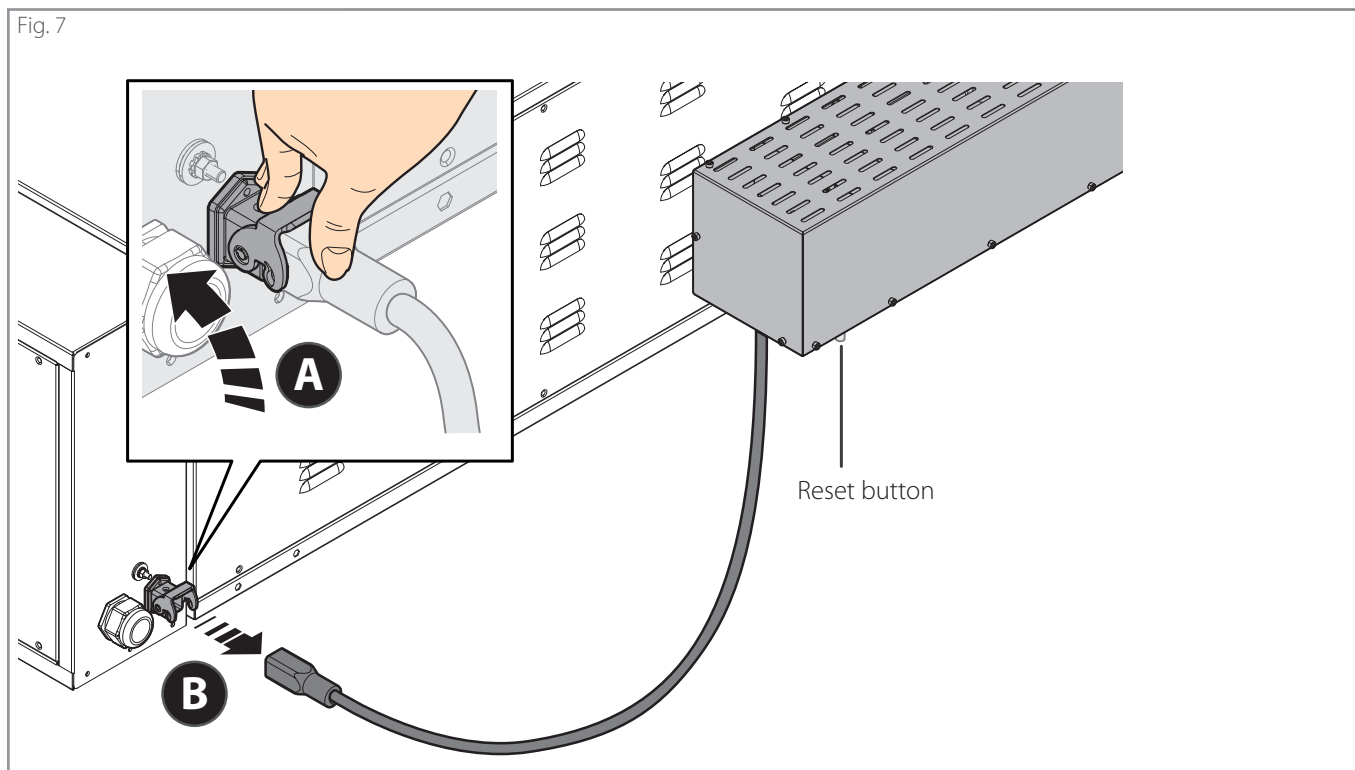

Fig. 7
► **Fig. 7** While waiting for the Technical Service intervention, disconnect the steamer from the Leonardo oven to which it is connected by removing the connection cable.
The steamer does not deliver steam	<ul style="list-style-type: none"> • Check that the steamer is correctly connected to the Leonardo oven (plug correctly inserted ► Fig. 7). • Check that the electricity has not been interrupted and that the system's mains switch is turned ON. • Check that the steamer is correctly connected to the water supply by means of a hose and that the water shut-off cock is not turned off. • The steamer, both in the preheating phase and after delivering steam, needs some time to return to temperature; during this interval the "STEAMER" icon turns RED, this means that it is heating the water again and therefore CANNOT be used until the icon returns to GREEN. Recovery time depends on the quantity of steam injected into the chamber, the maximum time is about 15 minutes. If the icon is fixed red, it is necessary to contact the Reseller.